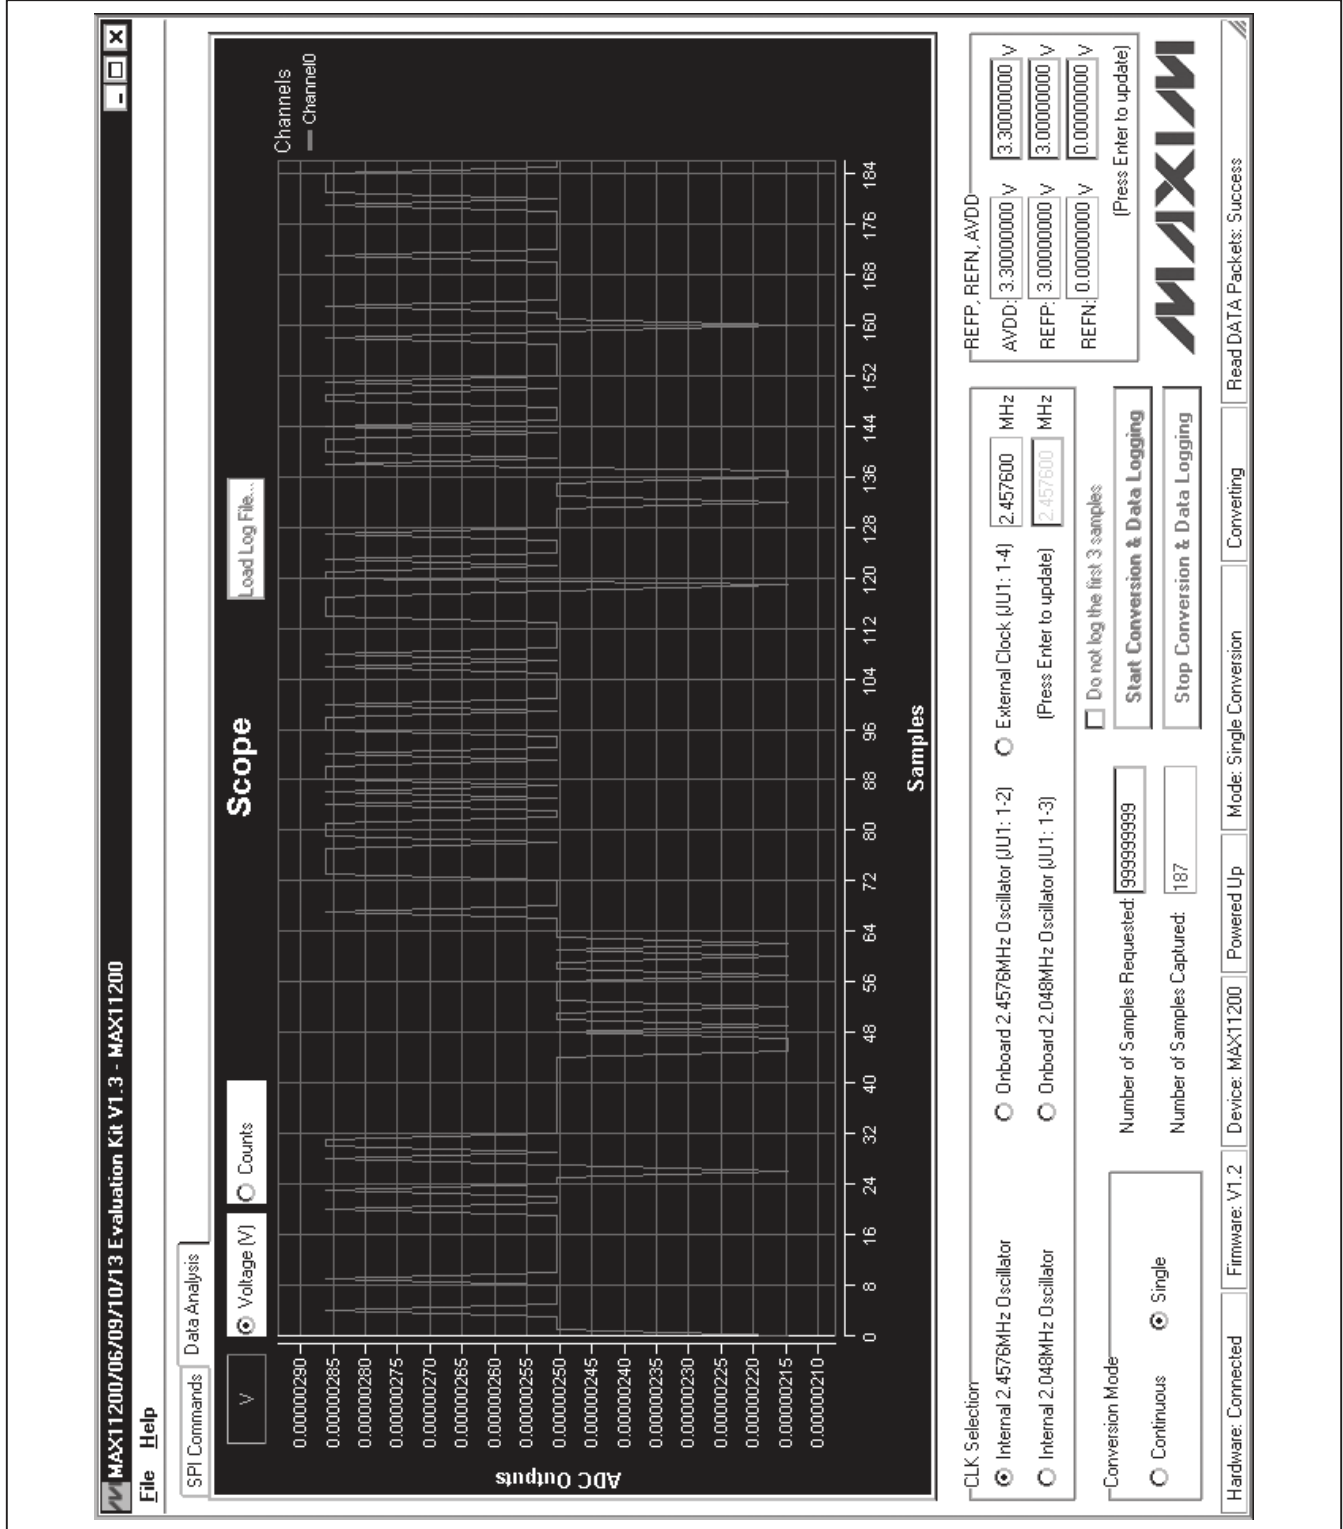

Figure 3. MAX11200/MAX11206/MAX11209/MAX11210/MAX11213 EV Kit Software (Data Analysis Tab)
- 11) Press the **Start Conversion & Data Logging** button. The software switches to the **Data Analysis** tab (Figure 3), displaying the scope of the sampled data.
The **Data Analysis** tab sheet (Figure 3) shows the waveform scope of the sampled signal. The user can load previous logged data to view the signal waveform by pressing the **Load Log File...** button. The user can zoom in and zoom out the scope. The user can also save and print the scope screenshot.